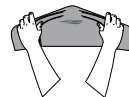

Figure 13.5a
1. Place both hands on the pillow as shown, Figure 13.5a.